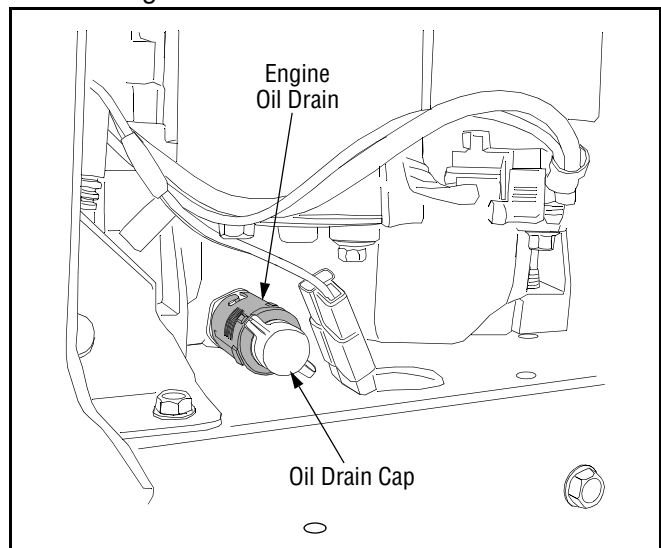

Figure 16
- Pop open the protective cap on the end of the oil drain valve to expose the drain port. See Figure 16